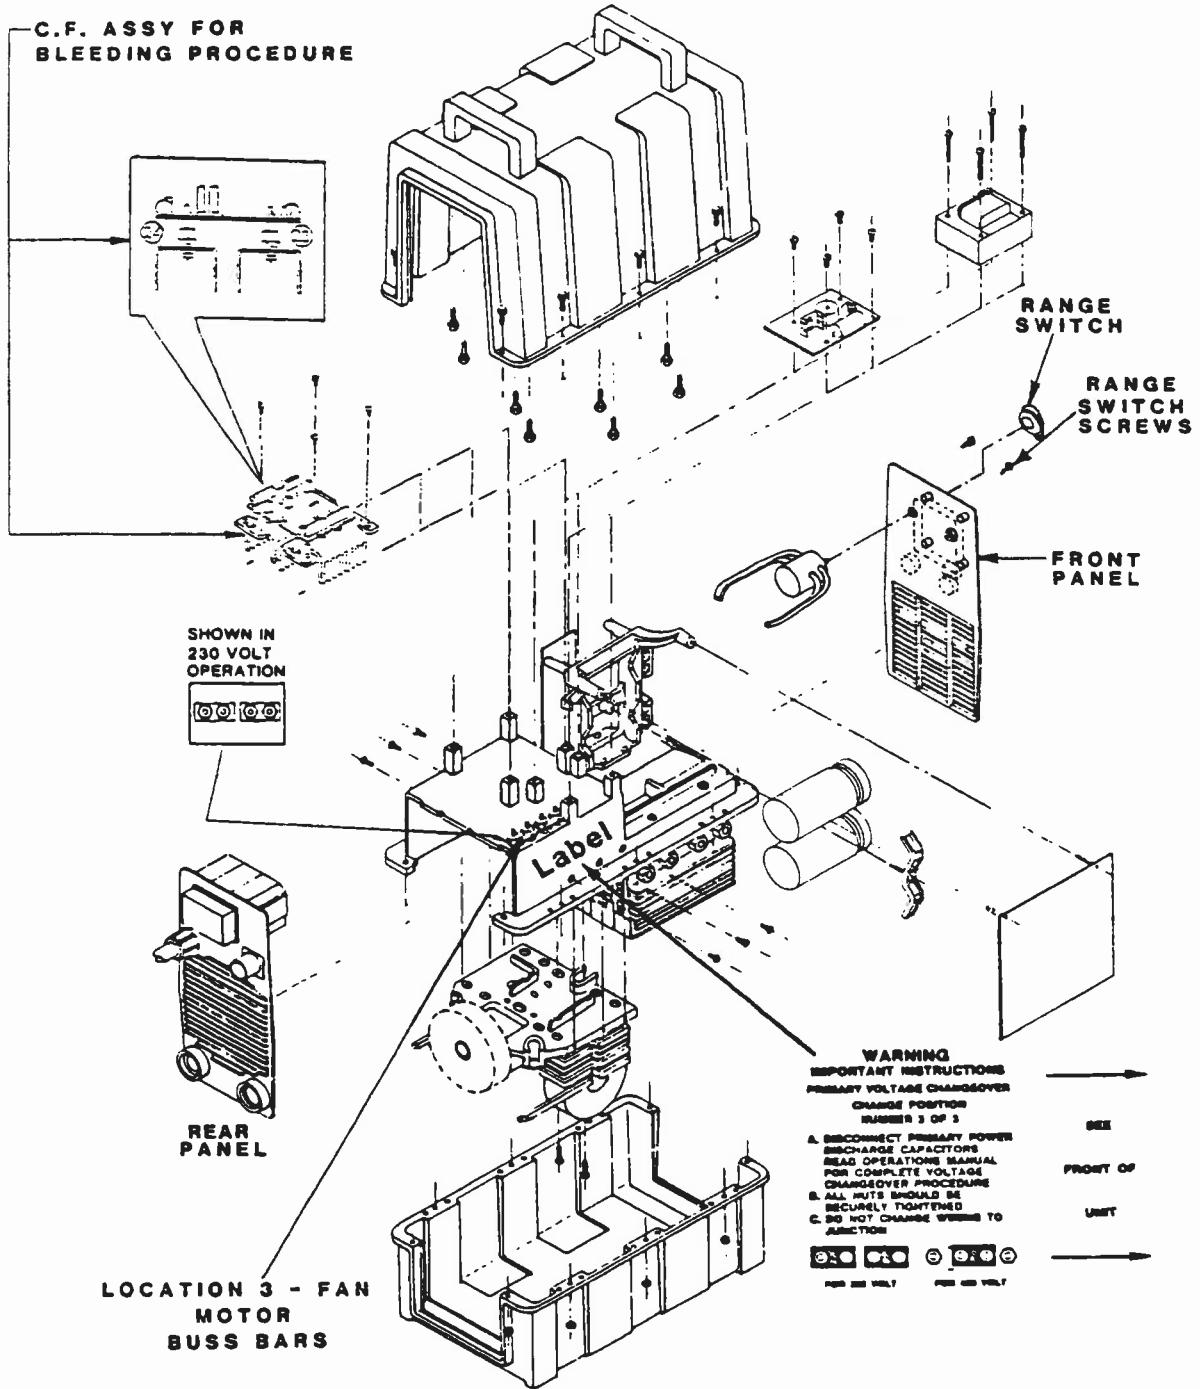

Figure 5, Location 3 Voltage Changeover
- 3) Copper buss bars for fan motor (left rear side of unit. see Figure 5.)
- A) Locate and read the warning label for the copper buss bars shown in Location 3 of Figure 5.
- B) Locate the C.F. assembly inside the unit as shown in Figure 5. The C.F. assembly can be identified by two aluminum heatsinks which contain three diodes each.